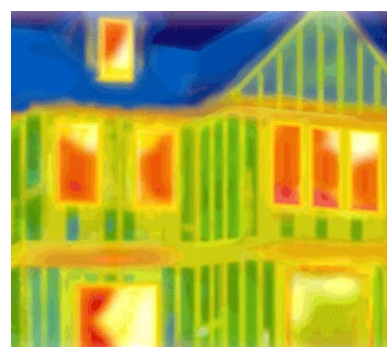

Fig. 3 Thermal camera image of timber frame walls.
- (a) **Repeating**, e.g. wall studs and ties, which can be accounted for in U-values (Fig.3 & 4),